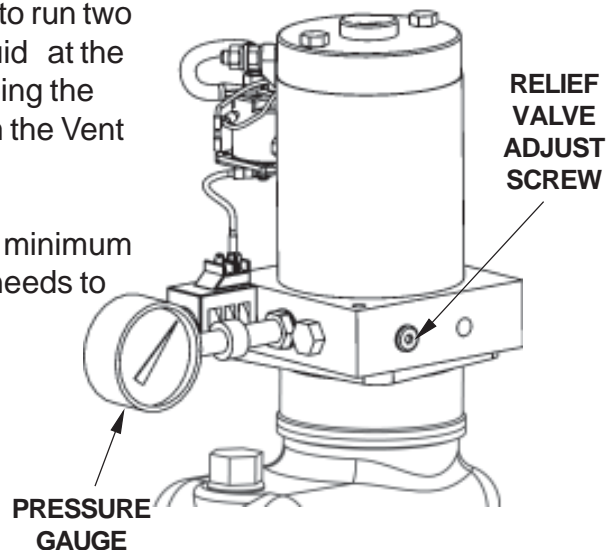

FIG. 62-2
3. With Platform on the ground, remove the pressure hose and fitting from the Pump and replace it with a 0-3000 PSI Pressure Gauge. Hold the switch in the "UP" position. Adjust the Relief Valve on the side of the Pump until the gauge shows 2800 to 3000 PSI (**FIG. 62-2**). Remove gauge and re-install pressure hose.